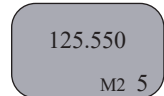

Figure 4
- Press the "ENT" key to enter that frequency into the selected memory location. **(See Figure 4)**
- Display will indicate the corresponding frequency of the memory location including bank location. **(See Figure 4)**